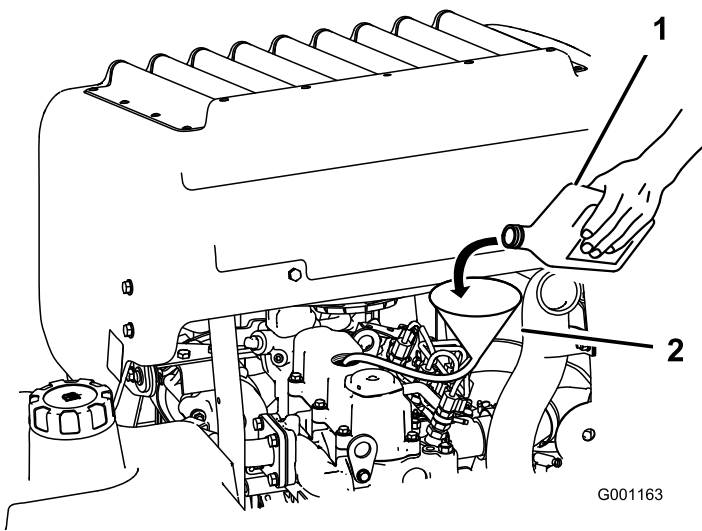

Figure 64
3. Use a hose and funnel to add oil to the engine (Figure 64).